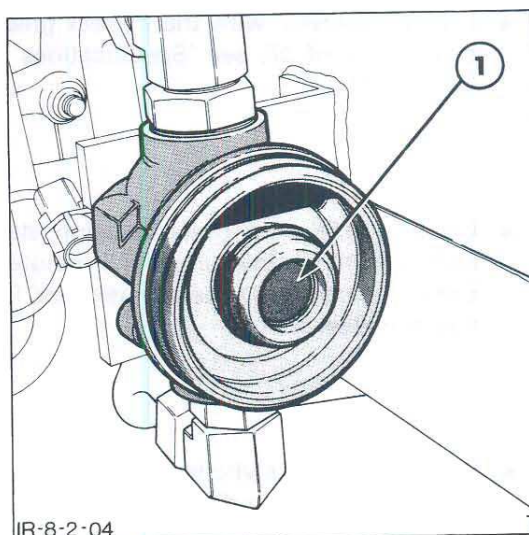

Figure 11
4. Position a suitable container beneath the filter head and drain the hydraulic oil from the system by pressing the anti-syphon valve open, refer to Figure 11.
2. Ensure the by-pass and anti-syphon valves move without sticking or binding, refer to Figures 11 and 13. This can be ascertained by pushing each valve against their spring assemblies and comparing the pressure with that of a new item. Should the condition of the antisiphon valve be in doubt it will be necessary to install a new filter head. The by-pass valve can be replaced as an individual item.
3. Position a suitable container beneath the filter head and drain the hydraulic oil from the system by pressing the anti-syphon valve open, refer to Figure 11.